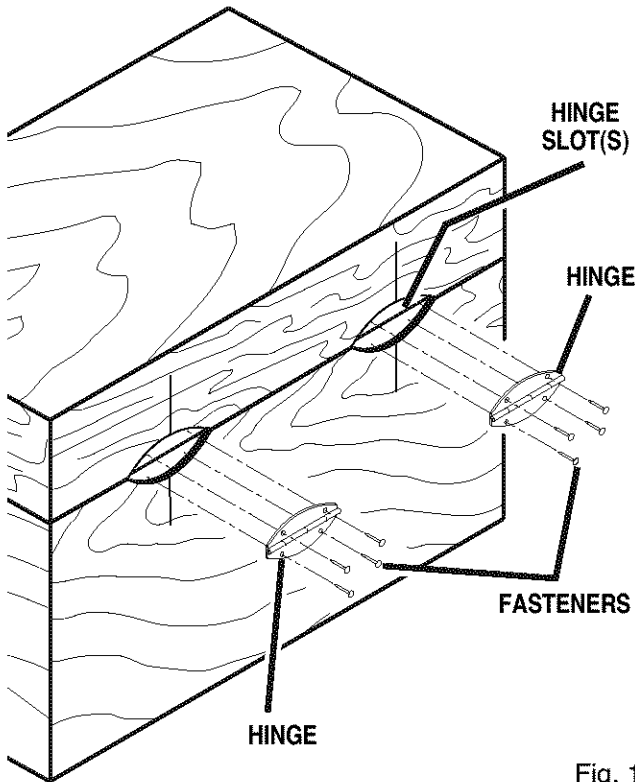

Fig. 19
See Figure 19.
- Place the fence against the board and align the indicator marks on the fence with the centerline mark(s) on the board. See Figure 19.